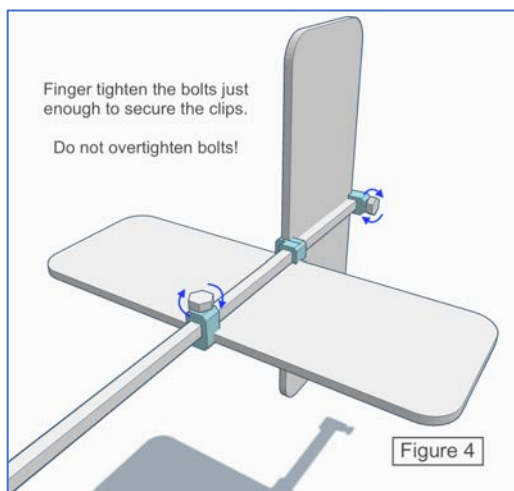

Figure 4: Attach Fin Clips - Pt. 3
7. Tighten the forward bolt against the boom until it is just snug and will not slide. (Figure 4)